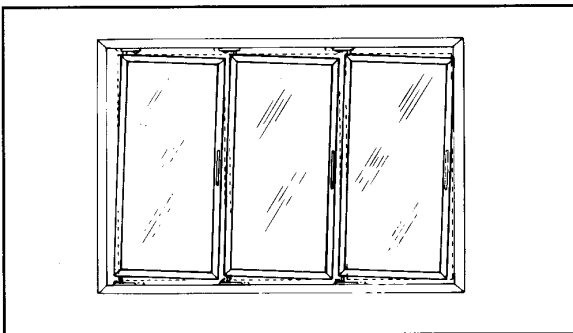

FIGURE 1
1. After installation, if door appears to sag (**Figure 1**); Ardco's adjustable hinging features will allow this situation to be corrected.
5. To correct the problem in Figure 1, shift the top mounting plates to the left and the bottom mounting plates to the right.